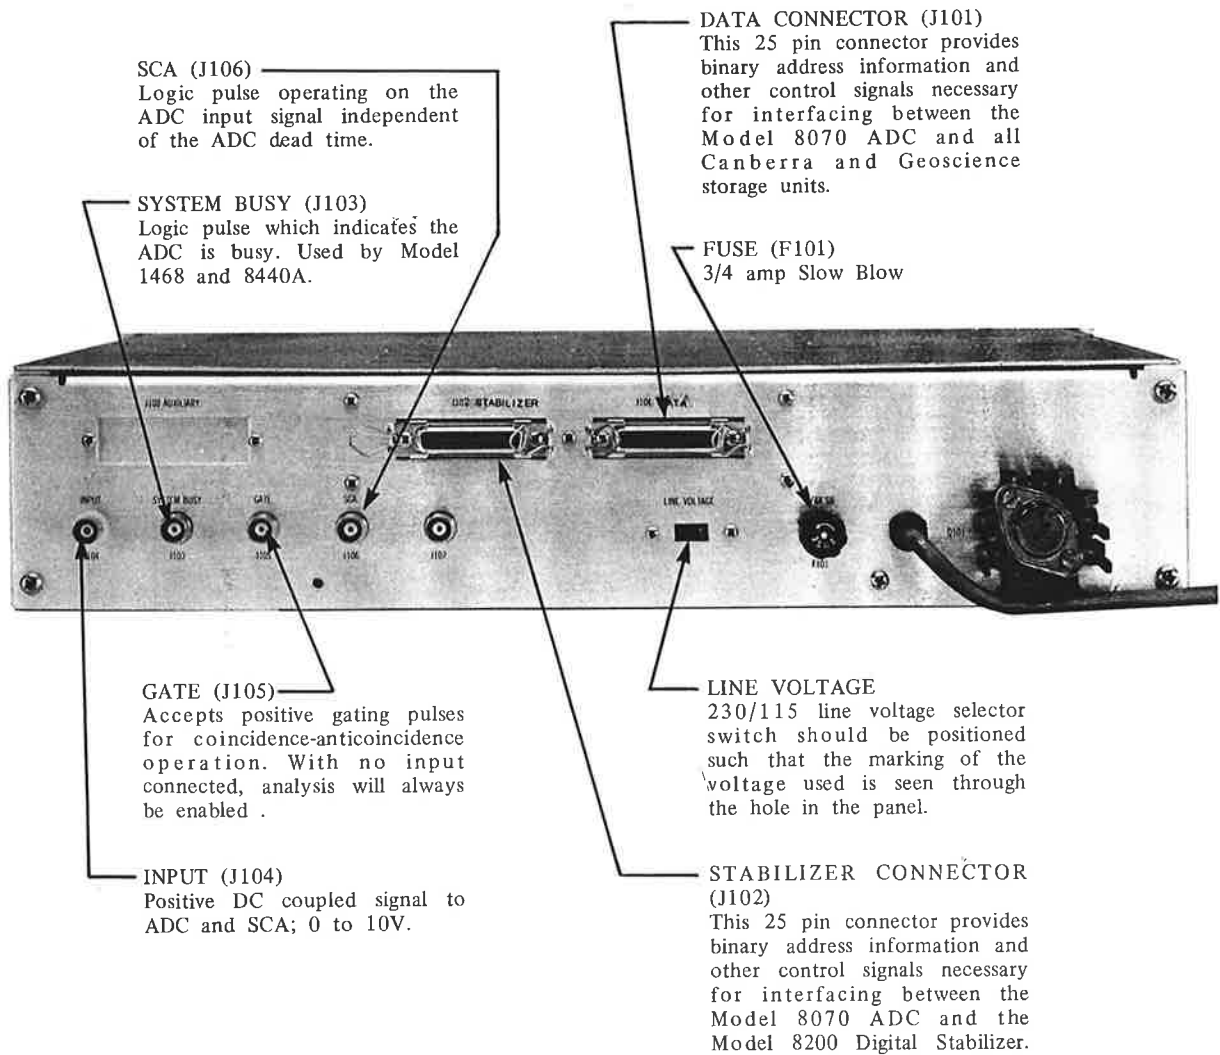

Figure 3-2
**3.3 REAR PANEL (Refer to Fig. 3-2)**